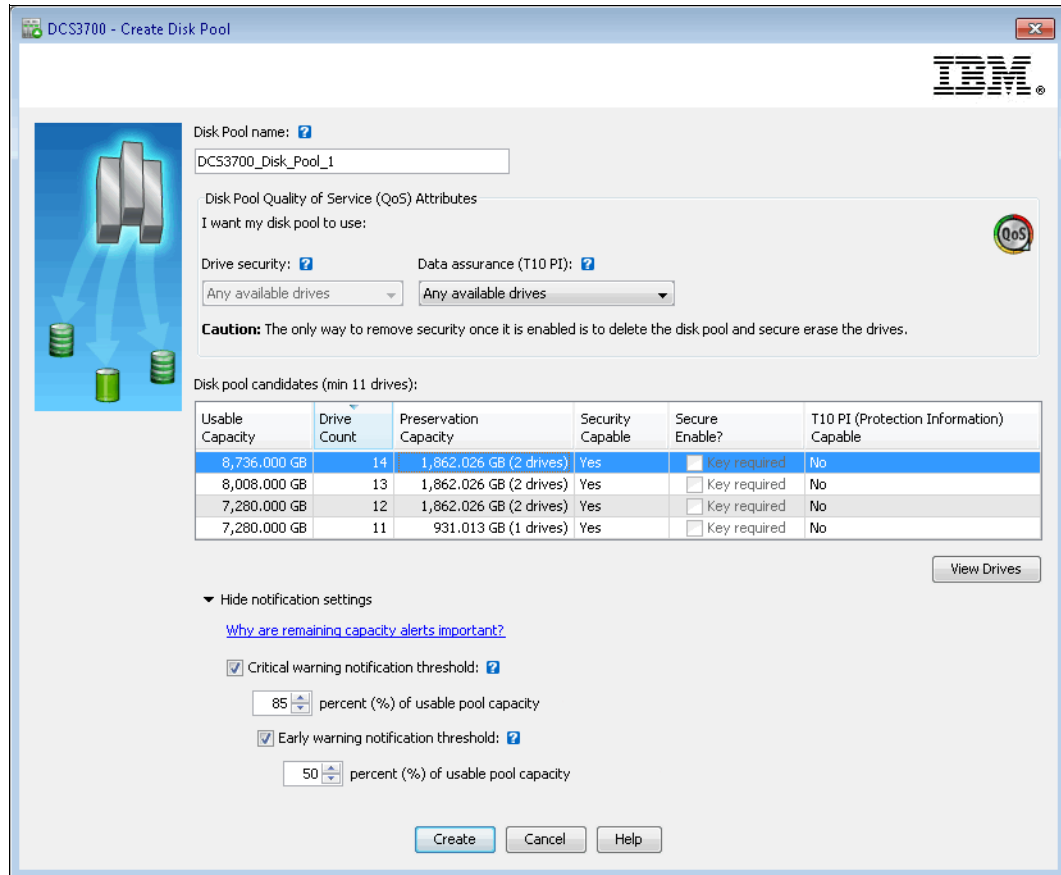

Figure 8-21 Create Disk Pool
- In the Create Disk Pool window, enter a meaningful disk pool name that describes your set of disks in to the Disk Pool name field, as shown in Figure 8-21. From the Disk pool candidates (minimum 11 drives) table, choose a combination of disks.